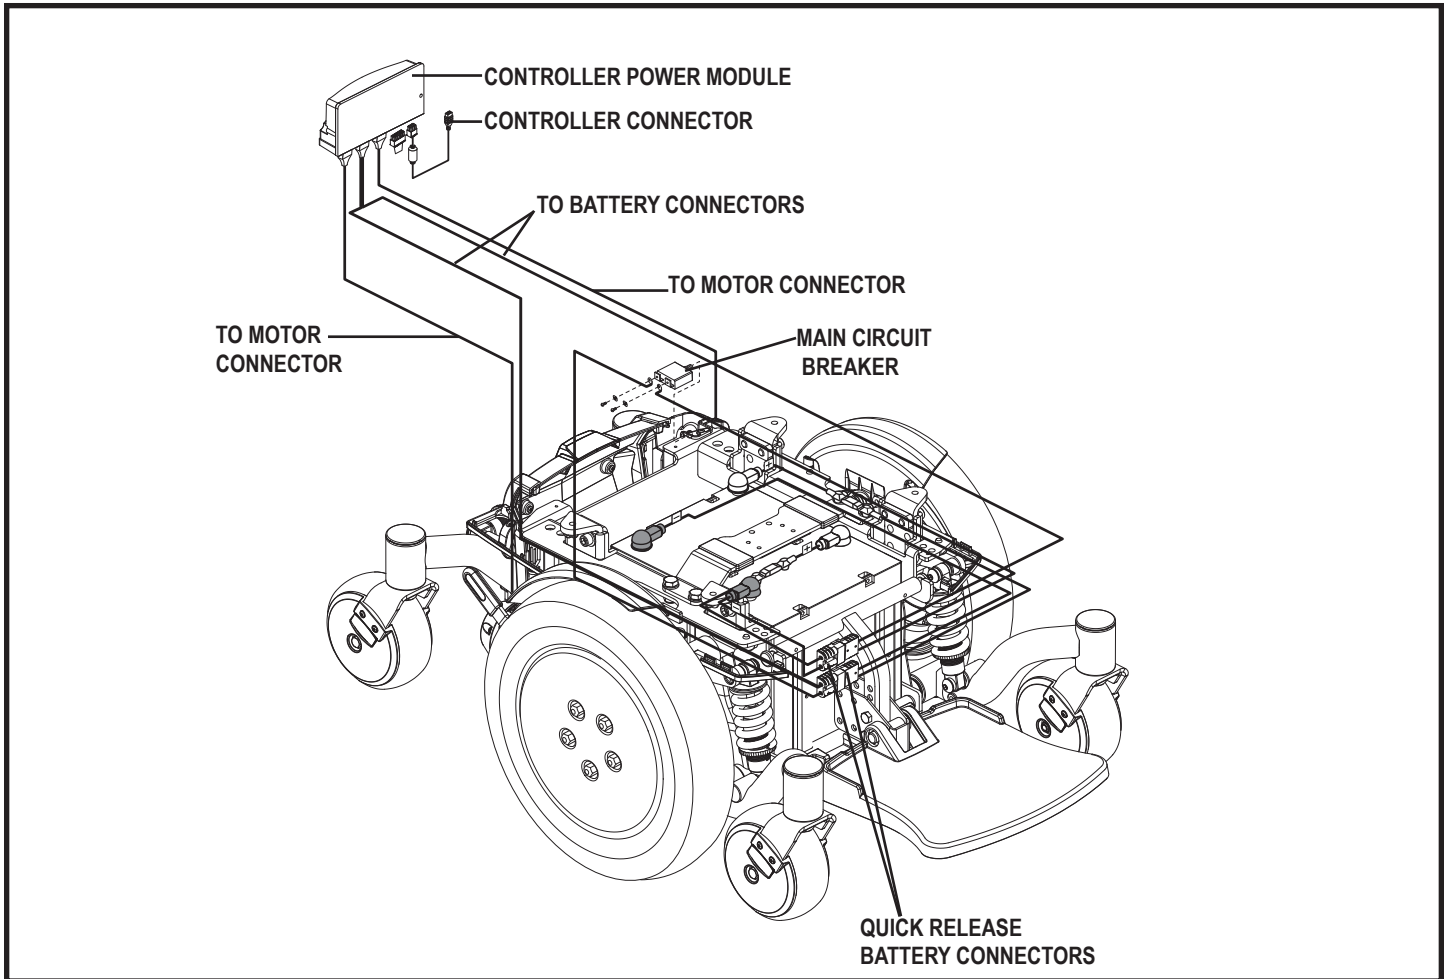

Figure 3. Jazzy® 600 ES Electrical Components
The electrical components consist of the controller assembly, the batteries, and the motors. The batteries, motors, and controller power module (if equipped) are located on the power base assembly. The controller is located on the seat assembly. Connectivity between the controller and the motors, batteries, and the battery charger is provided by one or more wiring harnesses. See figure 3.
5. Plug the controller connector into the rear of the power base. See figure 3.
4. Plug the controller connector into the power base. See figure 3.
3. Unplug the controller connector(s) from the power base. See figure 3.